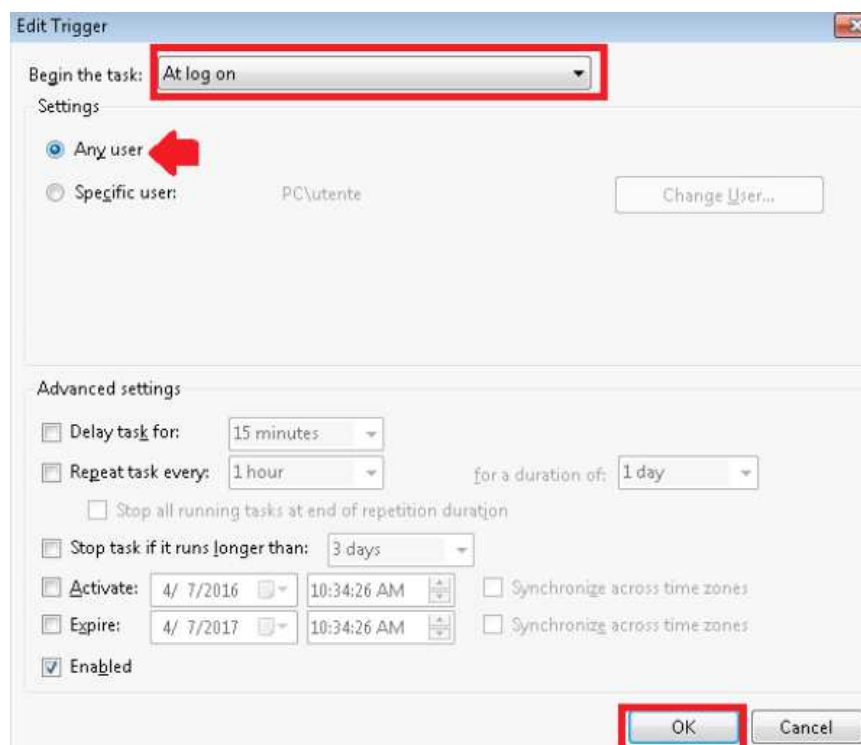

Fig. C.43: Edit Trigger dialog box
STEP 12 – In *Edit Trigger* dialog box please verify that *Begin the task* field is set to *At log on*. In *Settings* section please select *Any user* option and click *OK* to confirm the new settings and to come back to *StartClient Properties* dialog box (Fig. C.43).